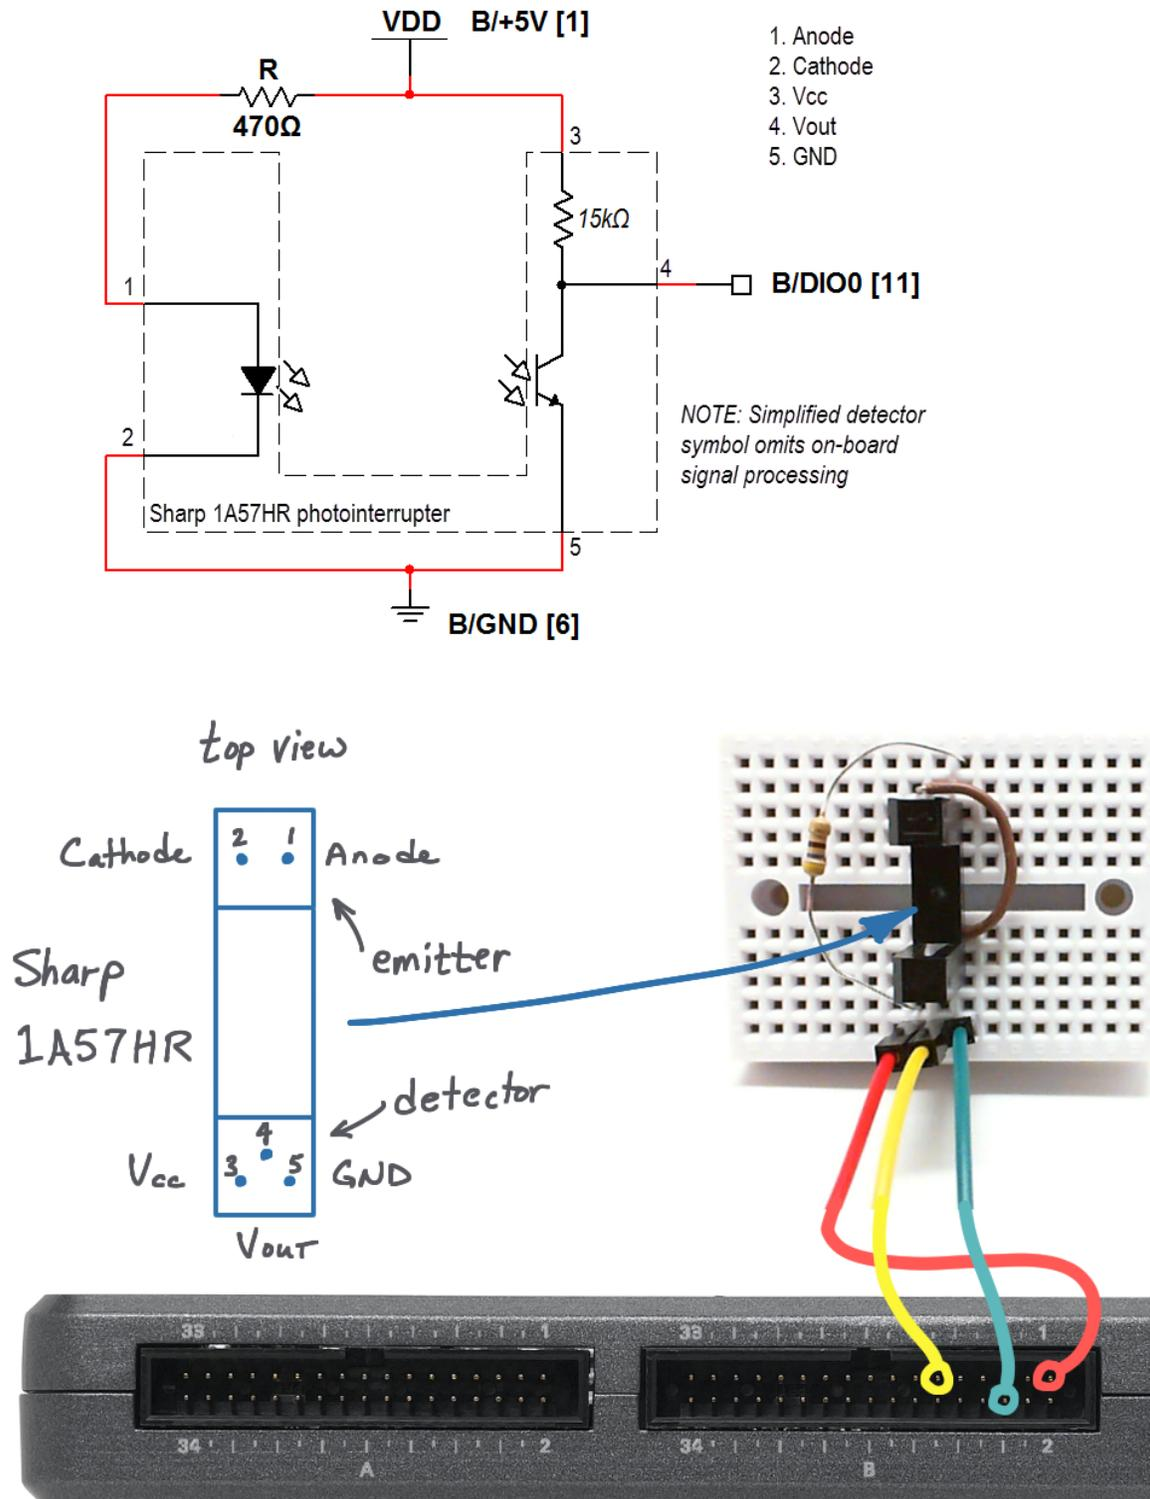

Figure 14.2: Demonstration circuit for photointerrupter: schematic diagram, recommended breadboard layout, and connection to NI myRIO MXP Connector B.
**Build the interface circuit:** Refer to the schematic diagram and recommended breadboard layout shown in Figure 14.2 on the next page. The photointerrupter interface circuit requires three connections to NI myRIO MXP Connector B: